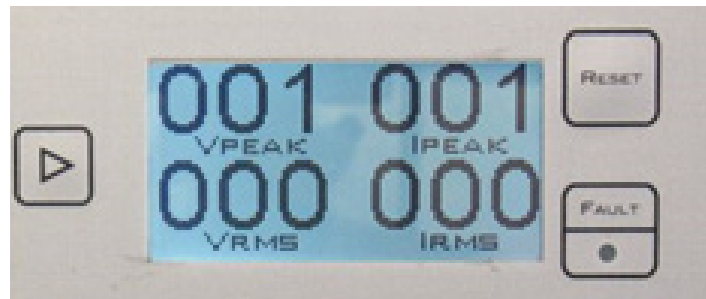

Figure 2.14 – Amplifier LCD Screen when the system is enabled
- B. When SYSTEM POWER is enabled, the unit will automatically begin the power-up sequence to activate the amplifier system. When the power-up sequence is complete for all amplifier modules, the Ready and Run LEDs will be lit on all modules, and the amplifier will amplify the input signal. The LCD screen on the upper module will display the VPEAK/VRMS/IPEAK/IRMS meters (multi-display) (see **Figure 2.14**).